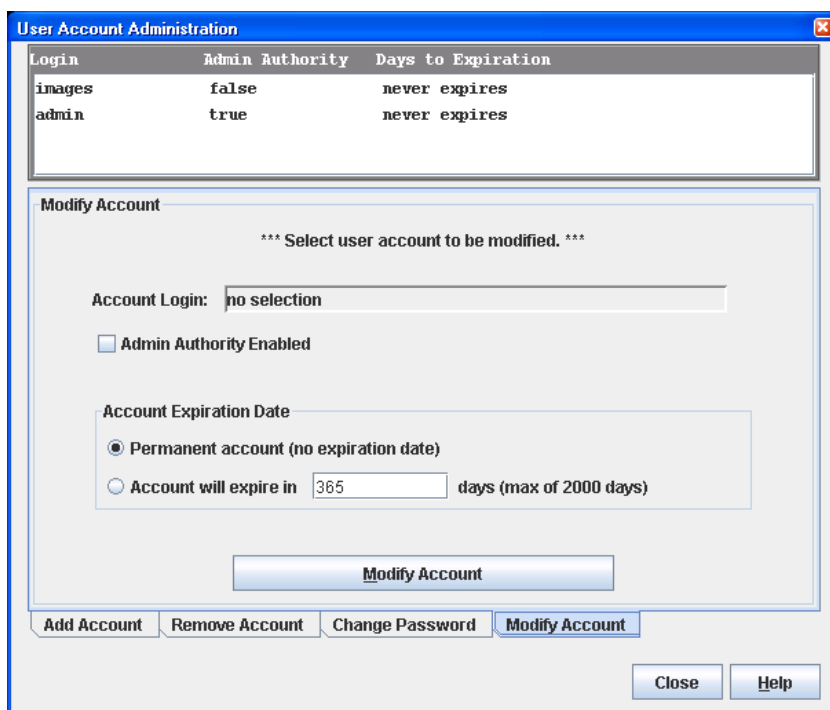

Figure 21 User Account Administration dialog - Modify Account tab page
2. Click the **Modify Account** tab to open the Modify Account tab page shown in Figure 21.